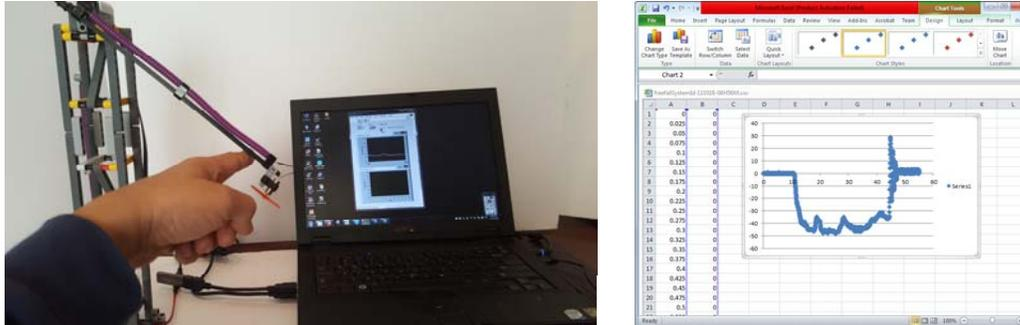

Figure 2-1A: Program is executed on laptop and pendulum moved counter clockwise to about -45 degrees (left). Scatter plot of captured data in Excel (right).
Here, toggling will not be used. Instead, run the program and rotate the pendulum counter clockwise (CCW) to an initial angle (e.g. -45 degrees) and release (**Figure 2-1A left**). Once the pendulum is motionless, hit the `Stop` button and save the data e.g. `legoDcpFreefall-1111018-08H56M.csv`. Graph the data in Excel as a scatter plot (**Figure 2-1A right**).
The data of interest in **Figure 2-1A right**, is the oscillatory peaks. Recall that the pendulum's angle gets smaller as time elapses. The amplitudes of subsequent peaks are related to the pendulum's damping ratio ζ and natural frequency ω_n thru a logarithmic decrement (1):